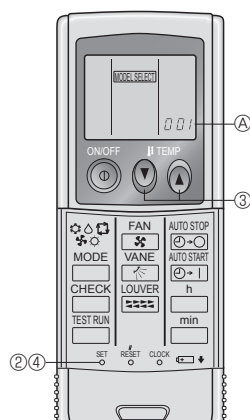

Fig. 6-6
3) Setting (Fig. 6-6)
① Insert batteries.
② Press the SET button with something sharp at the end.